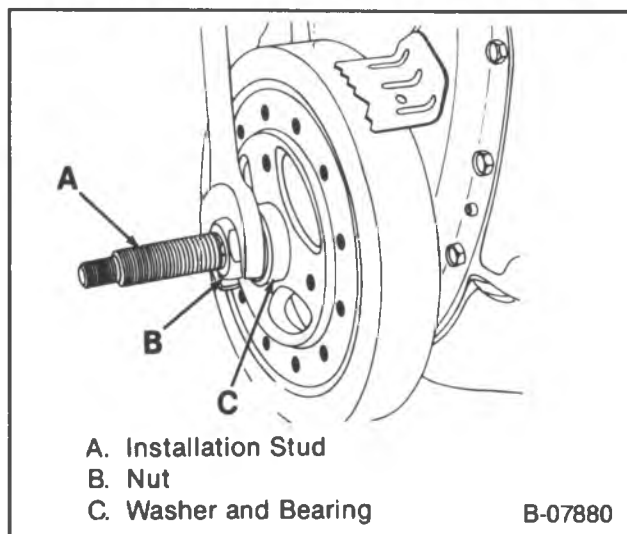

Figure 12 — Installing the Torsional Damper
3. Stud (item A, figure 12) to the crankshaft. Thread the stud fully into the tapped hole in the crankshaft.
5. Bearing, washer and nut (figure 12).